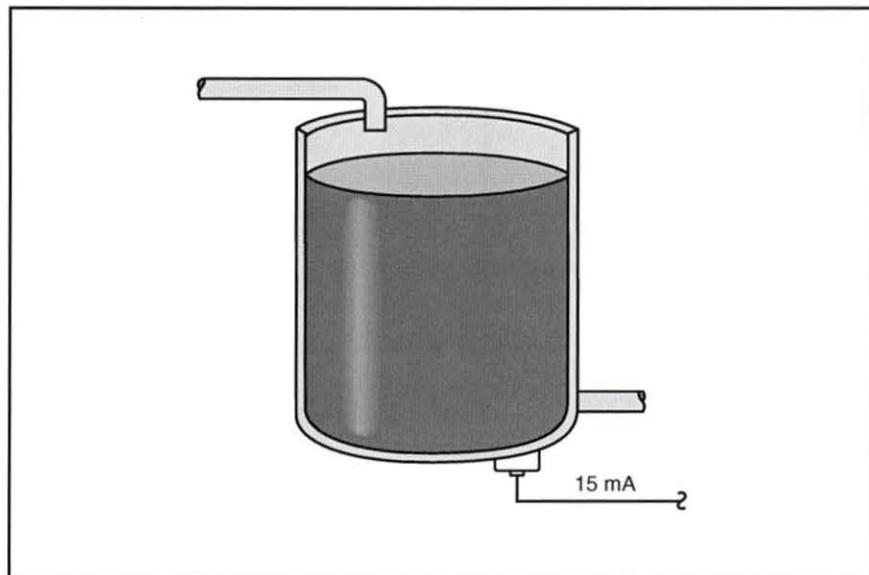

Figure 34. Pressure Sensor with a 15 mA Output
1. Calculate the pressure sensed by the pressure-type level sensor shown in figure 34. It has a 0-5 psi (0-34.47 kPa) input range and a 4-20 mA output range. The measured output from the sensor is 15 mA.